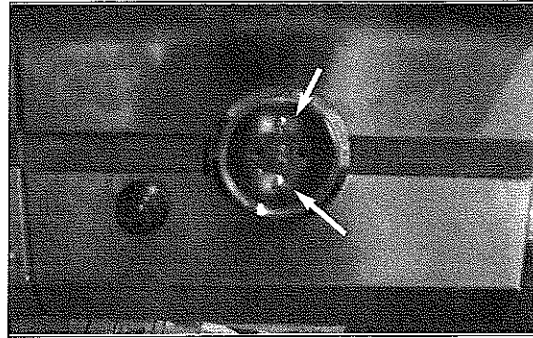

Fig 24
30. Remove the (2) screws holding the side burner bezel and valve. (See Fig. 24)
33. Reattach the bezel to the front of the side burner and the NG valve assembly with the screws previously removed. (See Fig. 24).